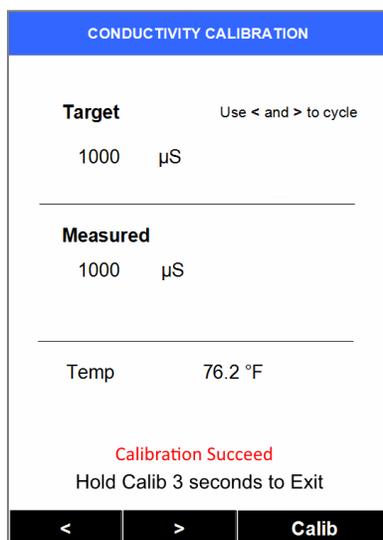

Figure 13
- 12) After successful conductivity calibration, the meter will read the sample and display the value in the measured section. A slight variance from the target is not problematic. A message will display in red "Calibration Succeed". The meter display will appear similar to Figure 13.